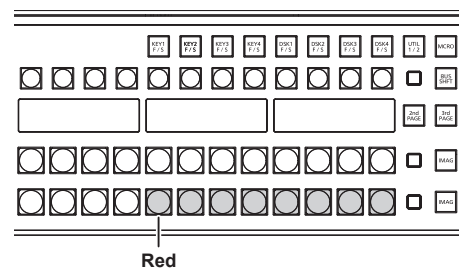

Fig. 3
- Eight buttons out of the PST/B bus crosspoint buttons in the ME in front will continue to blink in red. (Fig. 3)